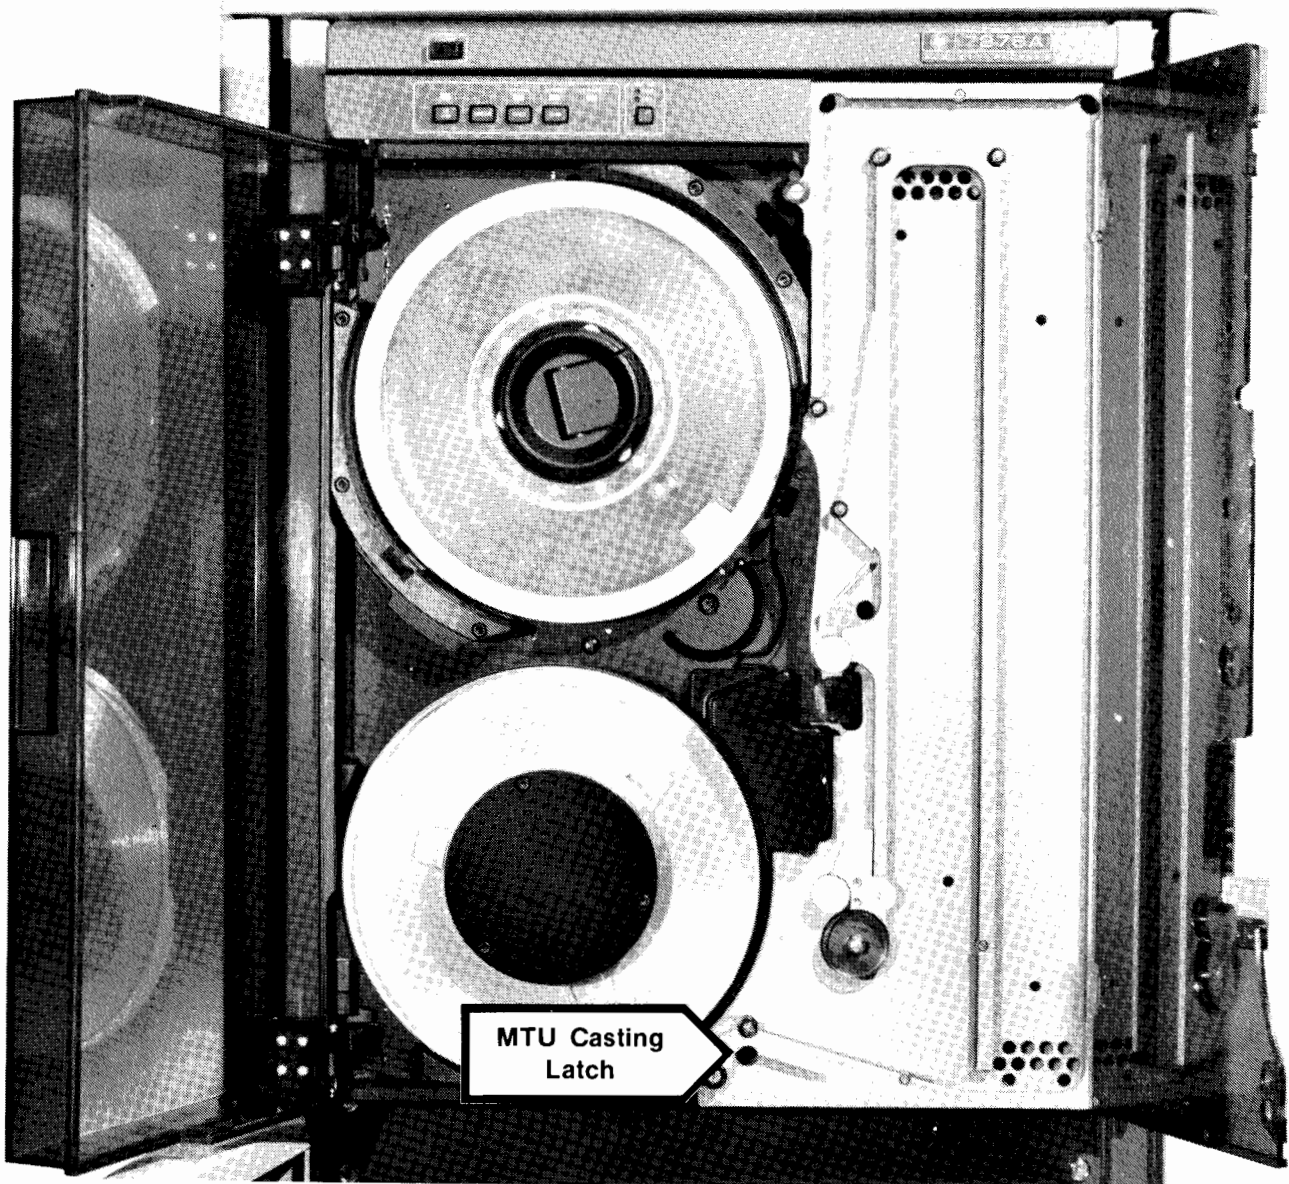

Figure 3-4. HP 7976A Magnetic Tape Unit Casting Latch
b. Open the tape unit casting. To open the casting, open the tape unit front cover door, locate the latch screw access hold (figure 3-4), and with a straight-blade screwdriver, rotate the tape unit latch screw counterclockwise until the casting latch-screw is free, allowing the casting to open.